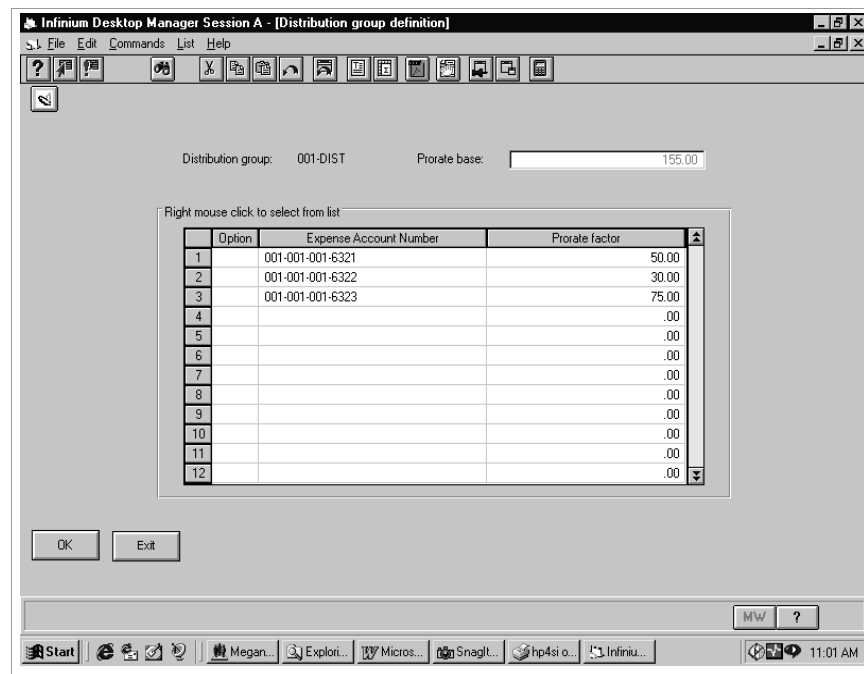

Figure 3-22: Distribution group definition screen
- 5 Press Enter. The system displays the screen shown in Figure 3-22.